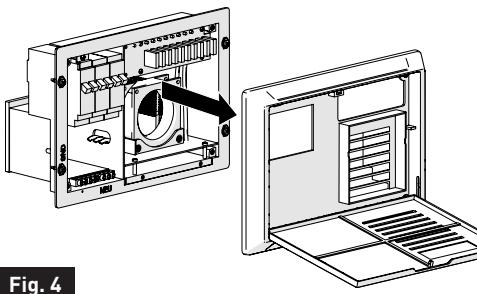

Fig. 4
- Pull to remove the housing from the unit. (Fig. 4)